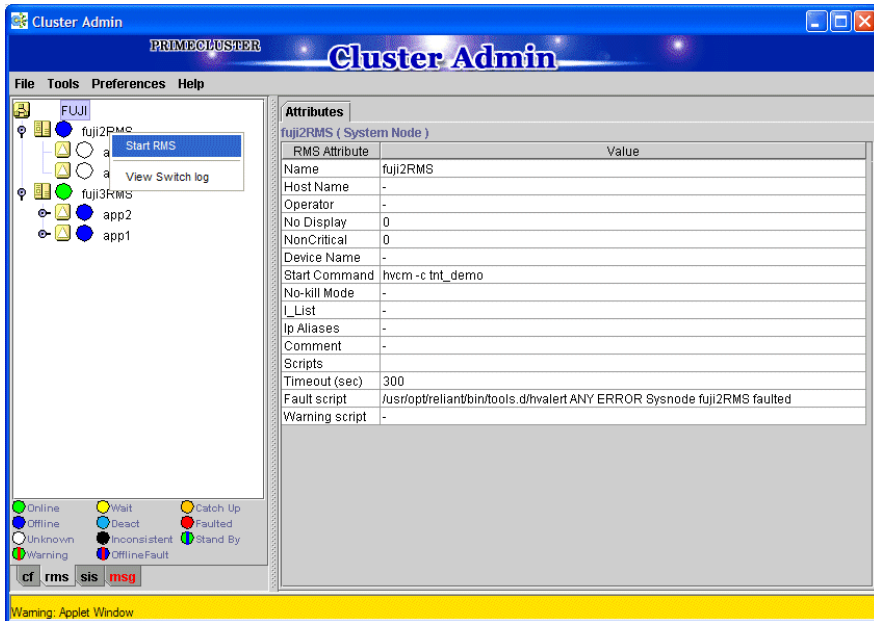

Figure 83: Starting RMS on individual nodes
- ▶ Right-click on the system node and select the *StartRMS* option from the pop-up menu to start RMS on that node (see Figure 83).